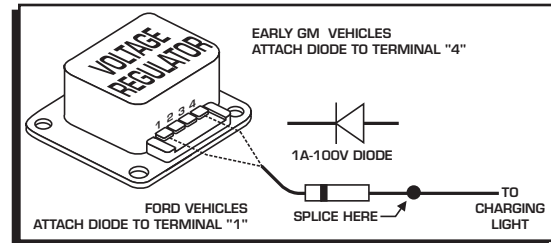

Figure 4 Installing the diode to a GM or Ford Engines.
**Early Ford and GM:** To solve the Run-On problem, a Diode is supplied with the MSD in the parts bag. By installing this Diode in-line of the wire that goes to the Charging indicator, the voltage is kept from entering the MSD. Figure 4 shows the proper installation for early Ford and GM engines.
**Note:** Diodes are used to allow voltage to flow only one way. Make sure the Diode is installed facing the proper direction (as shown in Figure 4).